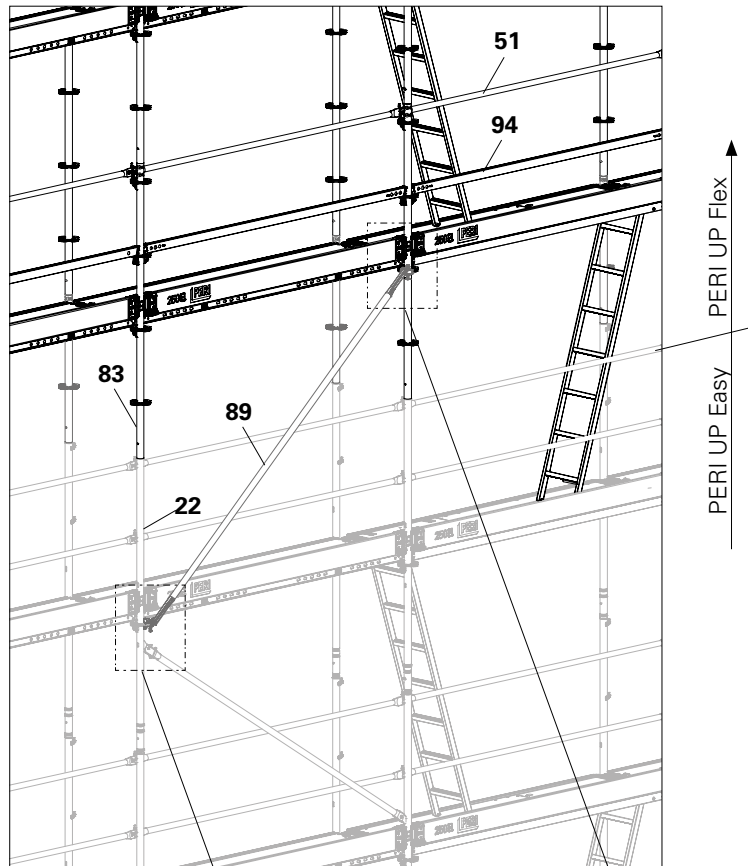

Fig. C1.05
5. Fit Toe Boards UPF. (Fig. C1.05)